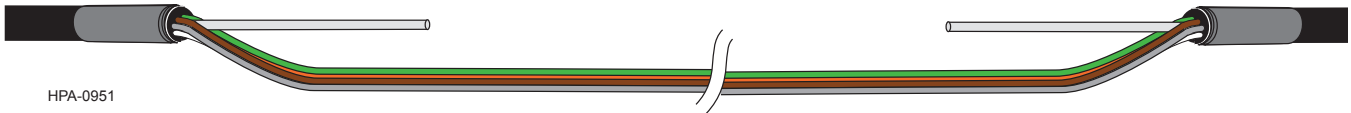

Figure 18
Step 11: Separate the buffer tubes from the central member. Cut the central member at each end of the mid-span (near the tape marks) to the appropriate length for strain-relief. If you will be installing cable strain-relief hardware that clamps into the jacket, place three layers of vinyl tape over the area where the clamps will make contact with the jacket. (Figure 18).